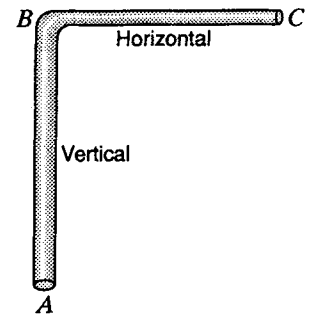

Figure P5.4
- 5.11 Refer to Fig. P5.4. ABC is part of a piping system. Water at 50°F flows up AB (15 ft long, 1.5 in diameter), then along BC (10 ft long, 1.0 in diameter). The measured pressure and mean velocity at A are 36.3 psi and 4 ft/sec; at C the pressure is 27.4 psi. (a) Find the pipe friction head loss between A and C. Neglect energy losses caused by the diameter change and bend at B.